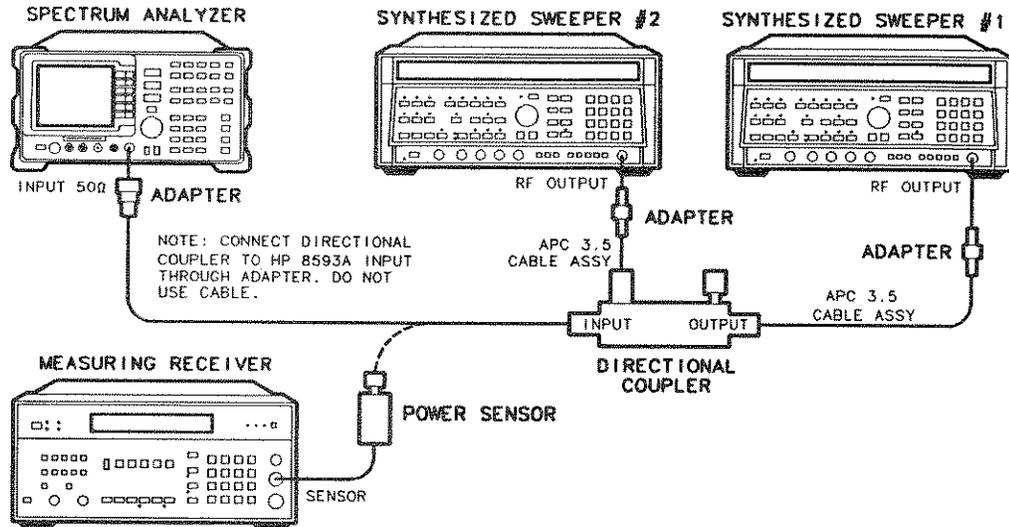

Figure 4-21. Third-Order Intermodulation Distortion Test Setup
32. Connect the equipment as shown in Figure 4-21 with the input of the directional coupler connected to the power sensor.